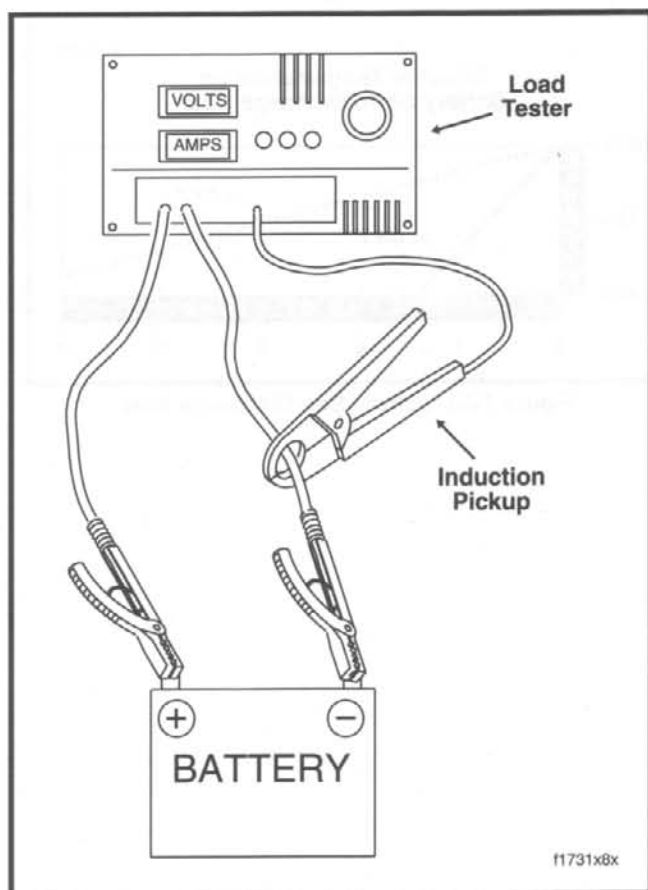

Figure 7-36. Load Test Battery
- Connect tester leads to battery posts and place induction pickup over negative (black) cable. See Figure 7-36.